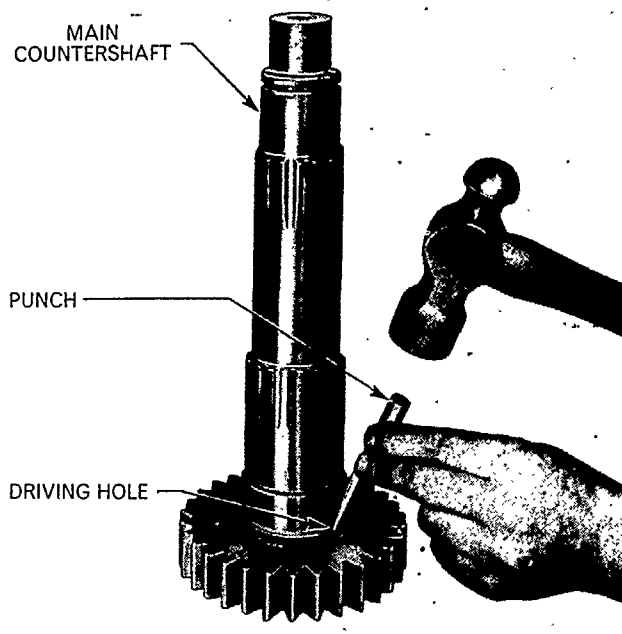

Figure 82
2. If necessary, the output shaft pilot bearing cup can then be driven out of the main countershaft with a suitable punch through the two holes provided in the gear, Figure 82.